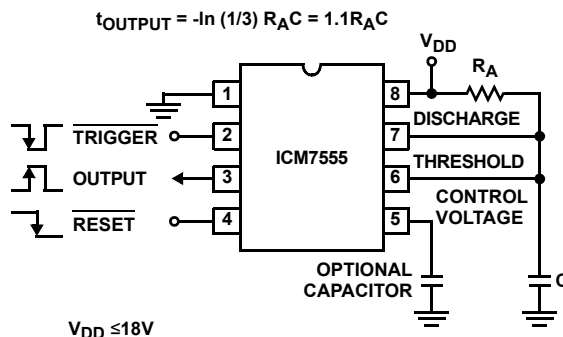

FIGURE 6. MONOSTABLE OPERATION
In this mode of operation, the timer functions as a one-shot (see Figure 6). Initially the external capacitor (C) is held discharged by a transistor inside the timer. Upon application of a negative Trigger pulse to pin 2, the internal flip-flop is set, which releases the short-circuit across the external capacitor and drives the Output high. The voltage across the capacitor now increases exponentially with a time constant $t = R_A C$. When the voltage across the capacitor equals $\frac{2}{3} V+$, the comparator resets the flip-flop, which in turn discharges the capacitor rapidly and also drives the OUTPUT to its low state. Trigger must return to a high state before the OUTPUT can return to a low state.